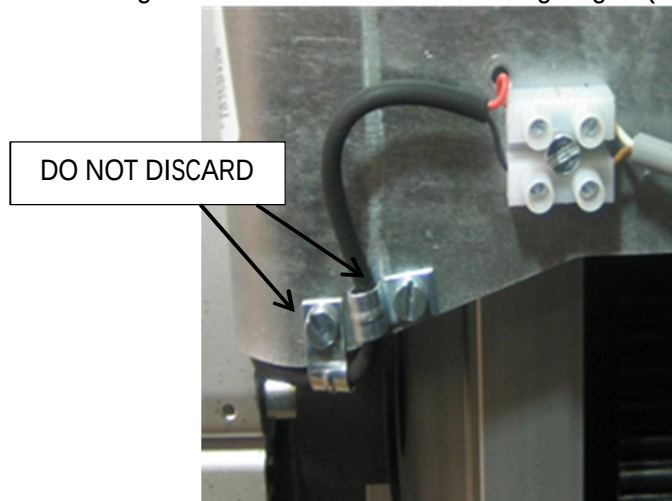

Figure 4
6. Remove the wires from the white terminal block and P-clips. DO NOT throw the P-clips away you will need them again to install the new reversing edge. (See Figure 4).